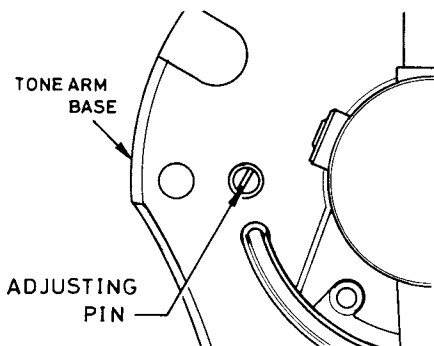

Fig. 3
- a) Adjust by gradually turning the screw (see Fig. 3) so that the tonearm returns to the arm rest when the stylus tip reaches the zone designated on the record RG-667 (between 56 and 65mm from the center shaft). The tonearm should be placed on the arm rest when turning the screw.
- a) Régler en tournant la vis progressivement (voir fig. 3) de façon à ce que le bras de lecture revienne sur le repose-bras lorsque l'extrémité de la pointe de satisfaisants.